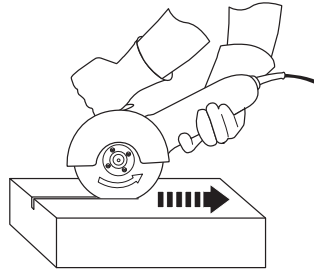

Fig. 21
6. Steadily guide the product in the direction of arrow to complete the cutting action (Fig. 21).